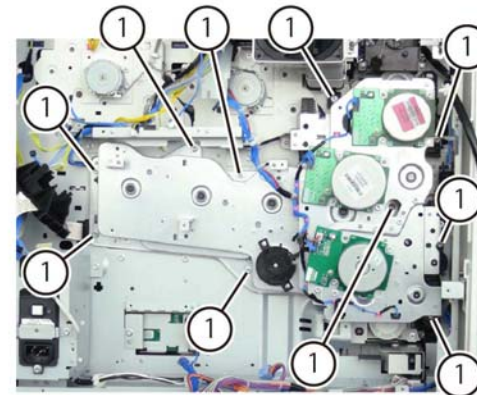

Figure 3 Drive assembly screw fittings
11. Remove ten screws (1) that secure the drive assembly, Figure 3.